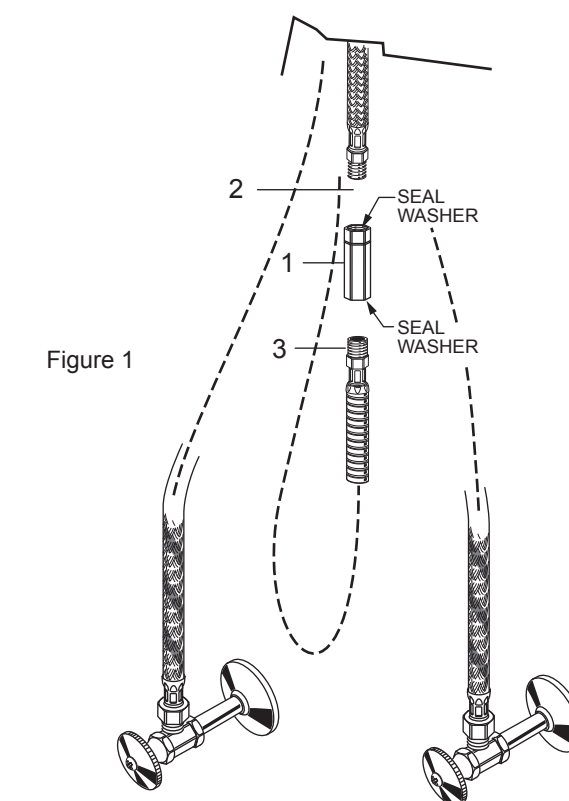

Figure 1
- Check that seal washers are installed in both ends of SPRAY HOSE ADAPTER (1). Thread SPARY HOSE ADAPTER (1) onto faucet SHANK (2). Tighten with adjustable wrench Figure 1.
- Thread HOSE END (3) into bottom of SPRAY HOSE ADAPTER (1). Tighten with adjustable wrench. Make sure all connections are right. Figure 1.